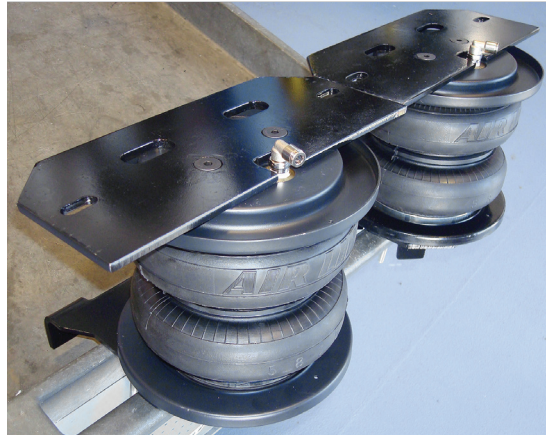

fig. C.11
6. Figure C.11 shows both assemblies ready for installation.